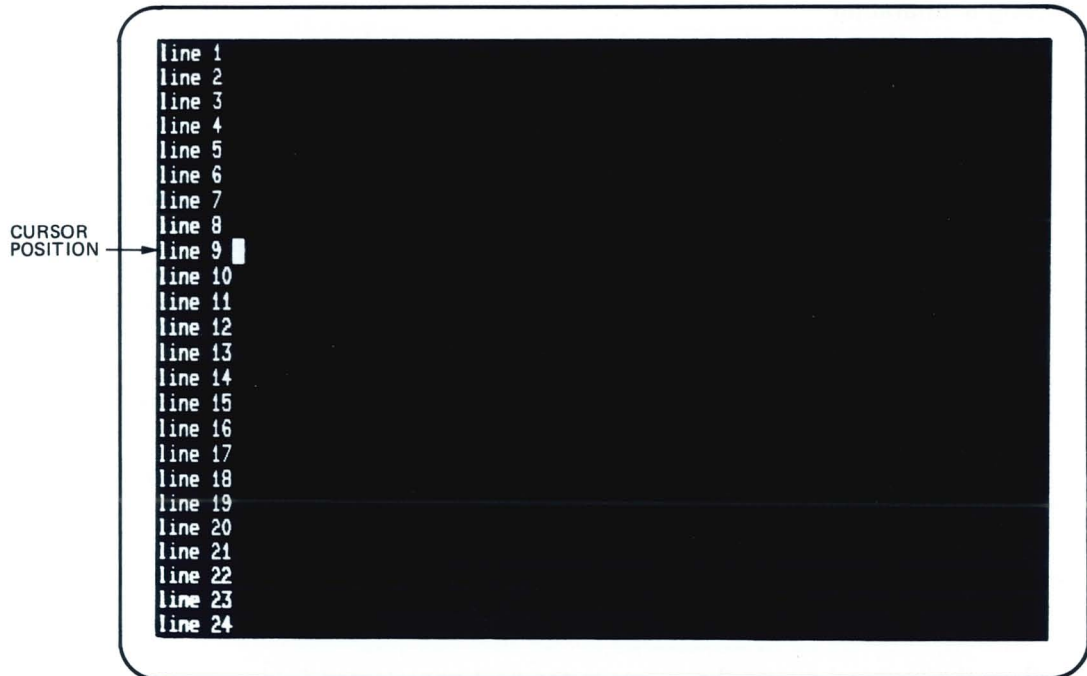

Figure 1-15 Cursor Positioned to Add a Line to the Screen
1. Place the cursor where the new line is to be added (Figure 1-15).